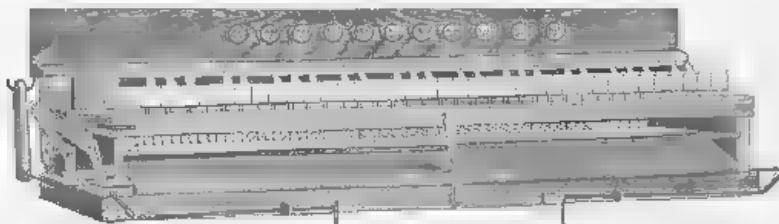

FIG. 6 - STOP BOARD
**The Stop Board** The action of the organ, ready to set into the case, is shown in Fig. 6, with the stop board in place. Unquestionably the stop action of the Estey organ is the most simple, the most accurate and the freest from noise of all methods yet employed in organ building. Little slides of hard maple connect coppered wire with the